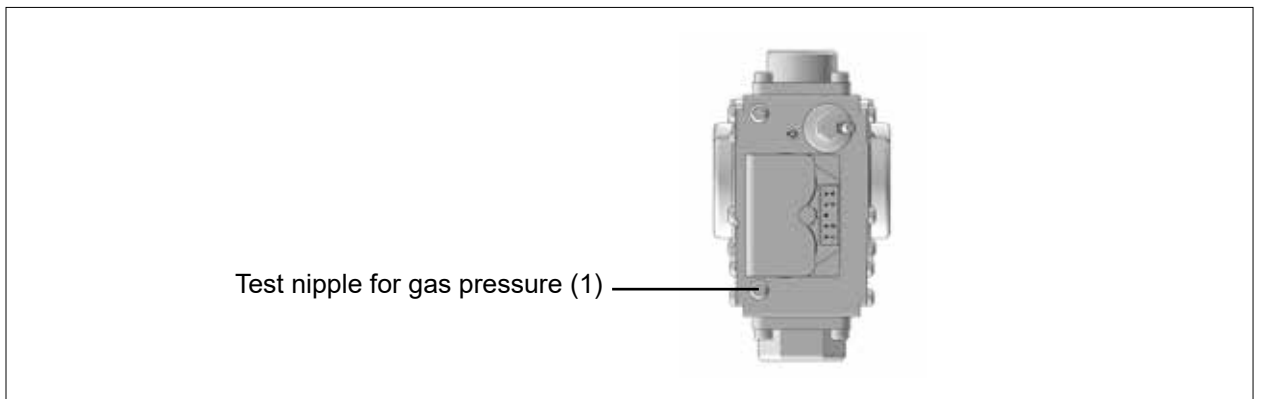

Fig. 6.2 Test nipple for gas pressure
- ▶ Release the plug at test nipple (1) (Fig. 6.2) and vent the gas supply line.
- ▶ Connect the differential pressure tester or U-tube manometer to the test nipple (1) at "+". With "-" against atmosphere